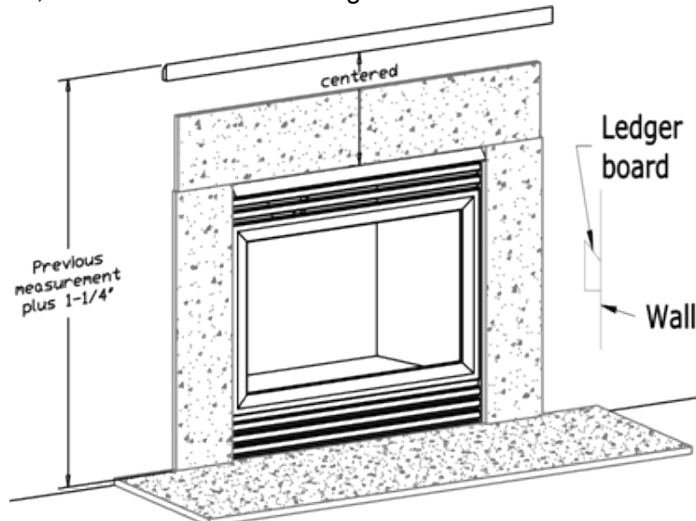

Figure 8
5. Locate the studs in the wall above your fireplace using a stud finder (available at your local hardware store) or by tapping horizontally on the wall to identify stud location. Studs are usually 16" center to center. Add 1 1/4" to your measurement above. This is the height at which to attach the ledger strip to the wall. The measurement is to the pointed side of strip. You should be able to mount it by eye if you don't have a level, since the springs give you some leeway. The pointed side of ledger should be AWAY from the wall and the strip should be roughly centered on the fireplace. Attach with the (2) 3" drywall screws provided, one in each stud. See Figure 8.